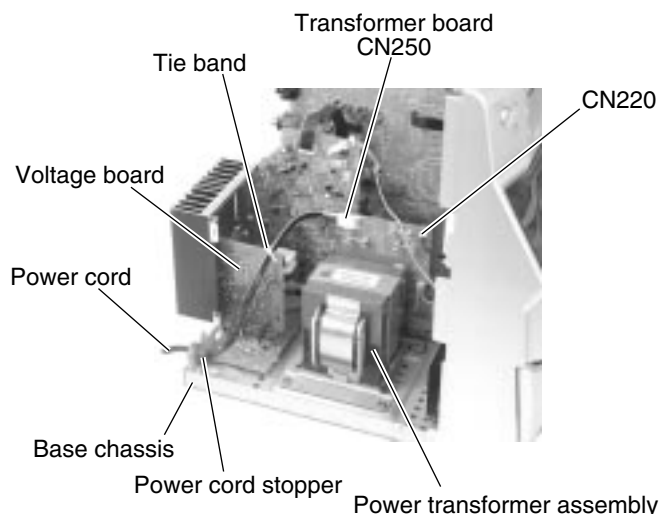

Fig.21
(Refer to Fig.21)
■ Removing the power transformer assembly (See Fig.21 and 22)
■ Removing the power cord (See Fig.21)